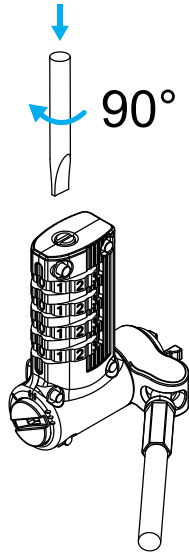

Figure 1
2. Insert a **Flathead Screwdriver** into the **Reset Button** and press it **Down** while turning it **Clockwise 90°**. Figure 1.